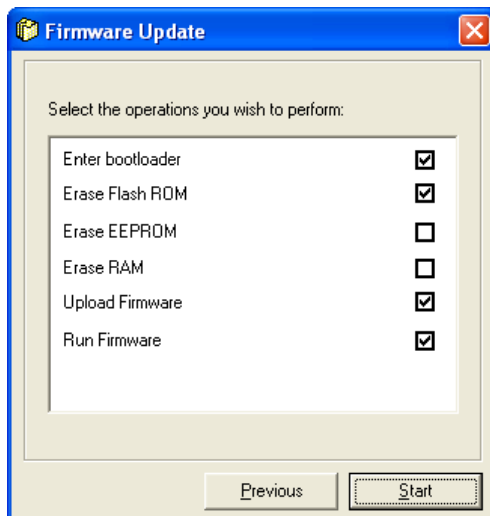

Figure 37 – Operations window
9. Make sure that all the boxes as shown in Figure 37 are checked.